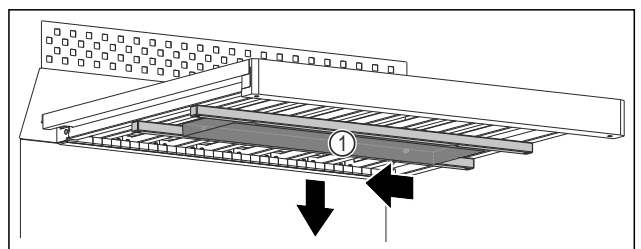

Fig. 100
- ▶ Push the water box Fig. 100 (1) to the left.
- ▶ Remove the water box Fig. 100 (1) downwards.